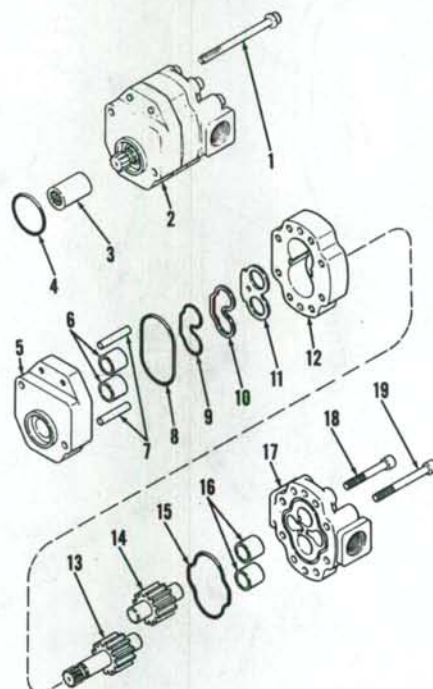

Fig. 250—Exploded view of gear type hydraulic pump section of dual pump.
tions of pump to aid in reassembly. Unbolt and remove rear cover (17—Fig. 250). Index gear teeth (13 and 14) to retain wear pattern, then remove drive (13) and driven (14) gear. Remove pump body (12) from front cover (5). Remove wear plate (11), Teflon seal (10) and rubber seal (9) from front cover (5).